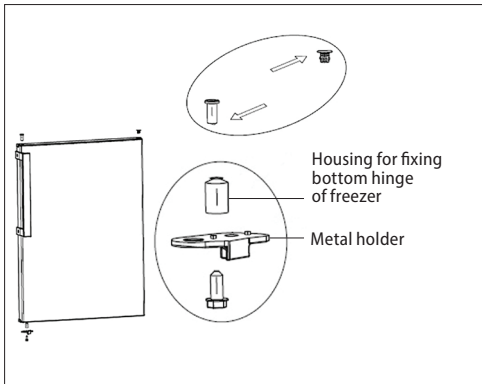

Fig. 5
11. Remove the housing for fixing the middle hinge of the refrigerator from the door of the freezer and place it on the other side of the door (Fig. 5).
12. Remove the plastic stop, the metal holder, and the housing for fixing the bottom hinge of the freezer from the bottom edge of the freezer door as shown in Fig. 5.
13. In the package with accessories, you can find the metal holder which, together with the housing, is to be installed on the other bottom edge of the freezer door (Fig. 5).